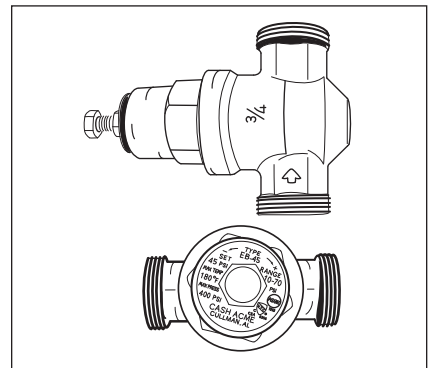

Figure 19 - A Pressure Reducing Valve is required if your home's water pressure is above 80 psi.
**6** If needed, install (or adjust) the home's Pressure Reducing Valve to 50-60 psi and install a Thermal Expansion Tank (Figures 19 and 20).